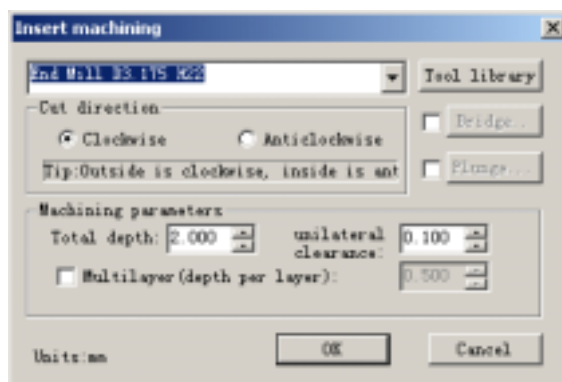

Fig. 10-41
1. Select the character “R”, and then click on the shortcut icon  in **Tool Path Bar** or click **tool path->insert and inlay->insert** in the menu bar. Then the dialog in Fig. 10-41 is displayed.